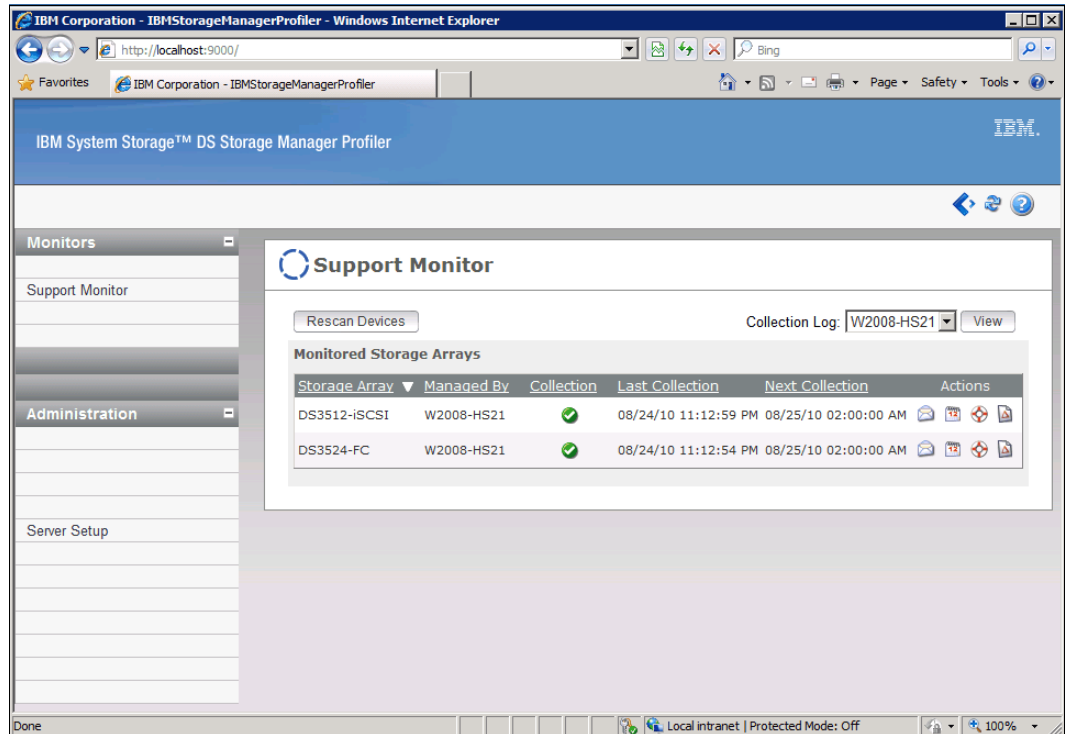

Figure 14-20 Support Monitor Profiler Console
2. The profiler console opens in a web browser as shown in Figure 14-20 on page 343.